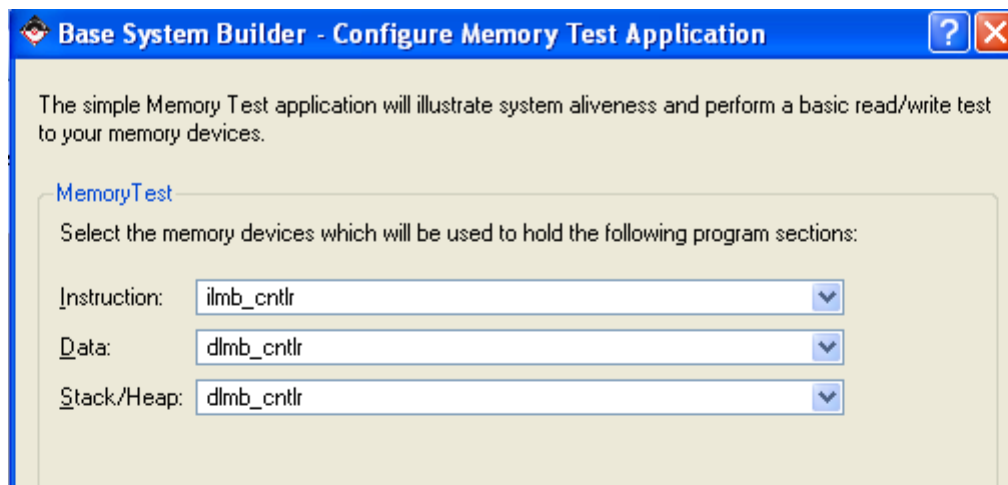

Figure 1-12. Configure Memory Test Application
- ⑤ Leave the default selections in the **Configure Memory Test Application** dialog (Figure 1-12) and click **Next**.